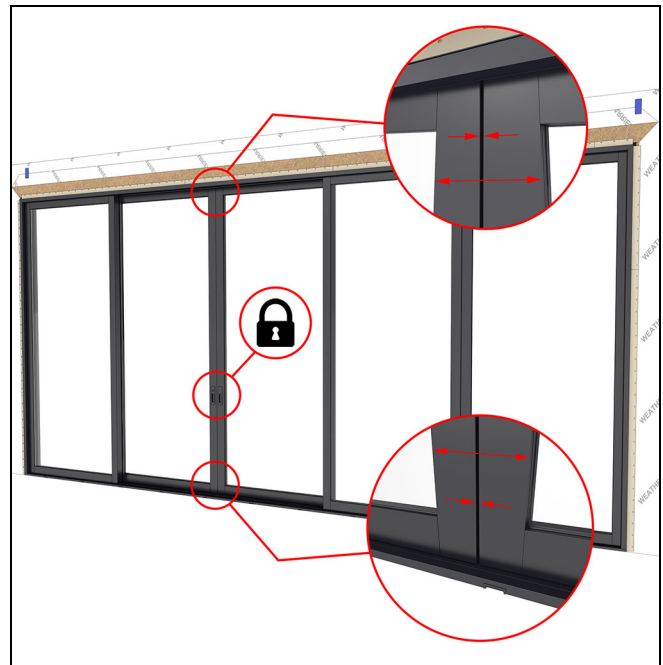

Figure 143
14. Close and lock the (A) and (E) operator panels. Check the operator panel for an even reveal. Adjust panel rollers as needed for proper lock engagement and reveal. See Figure 143.